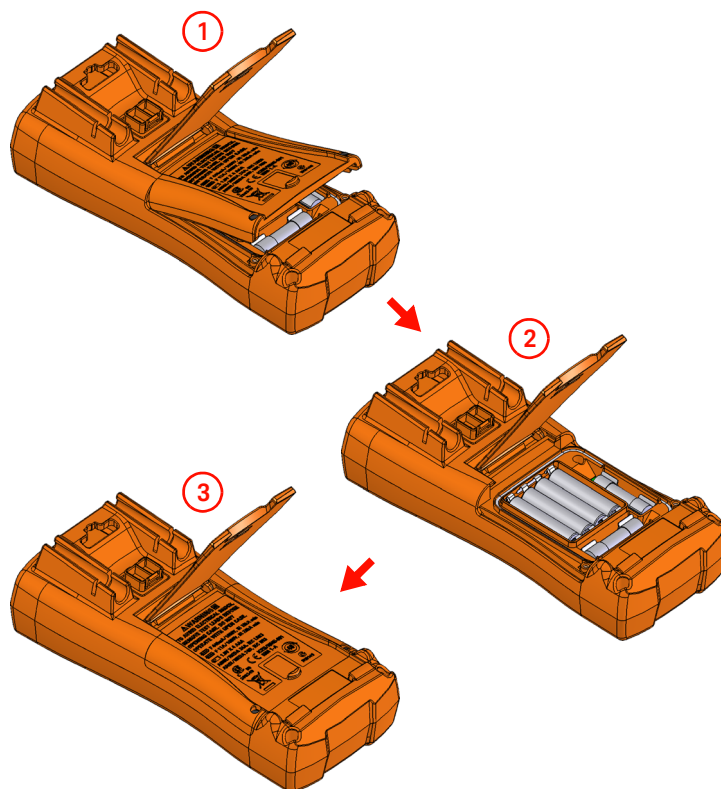

Figure 1-1 Installing the batteries
- 1 Open the battery cover.** Lift the tilt stand, loosen the screws with a suitable Phillips screwdriver, and remove the battery cover as shown in **Figure 1-1**.